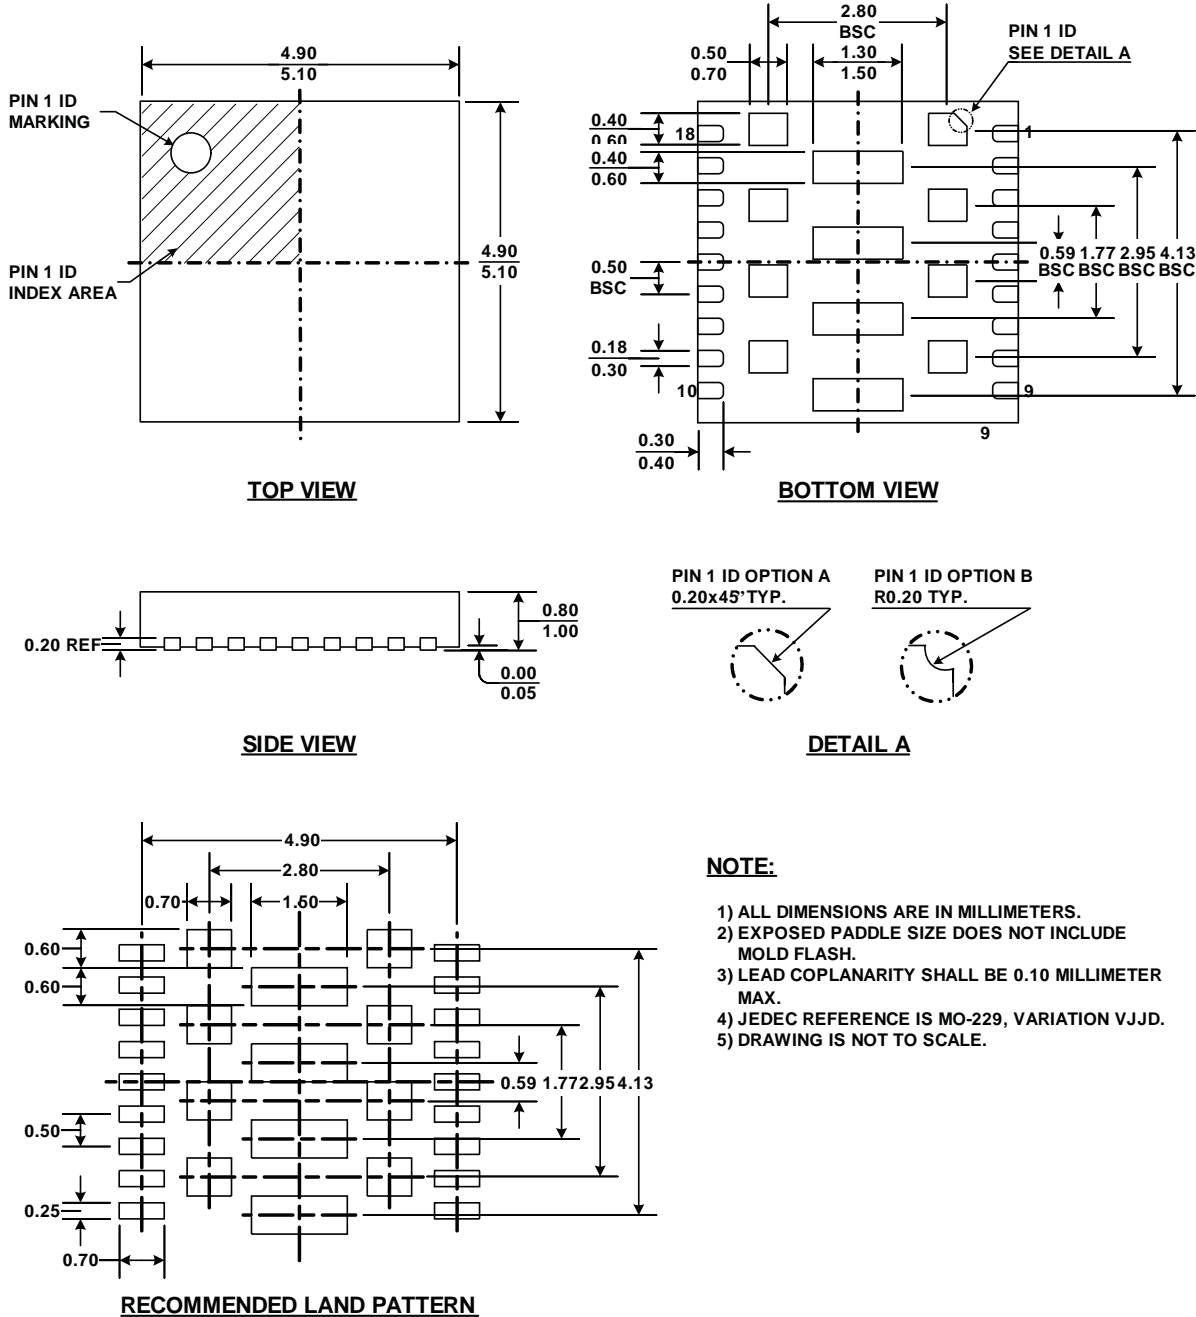

**Figure 4—Copper Area Guideline**
5) Connect IN, SW and GND to large copper area and use vias to cool the chip to improve thermal performance and long-term reliability. See Figure 4 as an example.